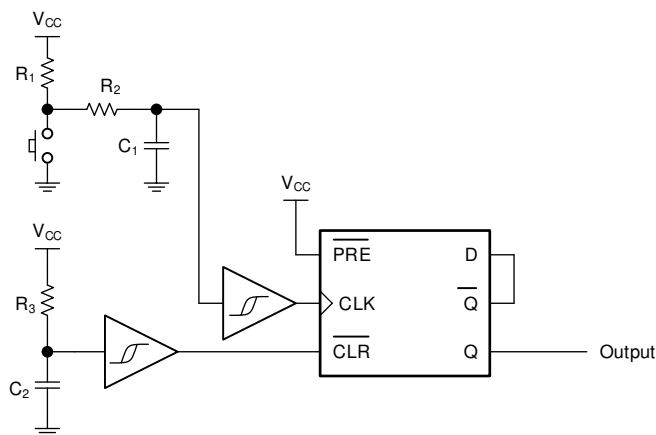

Figure 9. Typical application schematic
If the data input (D) of the SN74HC74-Q1 is tied to the inverted output ($\bar{Q}$), then each clock pulse will cause the value at the output (Q) to toggle. The momentary switch can be debounced and connected to the buffered clock input (CLK) to toggle the output. These connections are shown in Figure 9